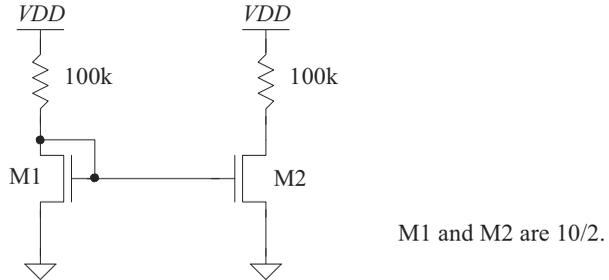

Figure 20.51 Current mirror used in Problem 20.1.
- 20.1** Using the CMOS long-channel process (1 μm), determine the current flowing in the circuit seen in Fig. 20.51. Verify your answer with SPICE.